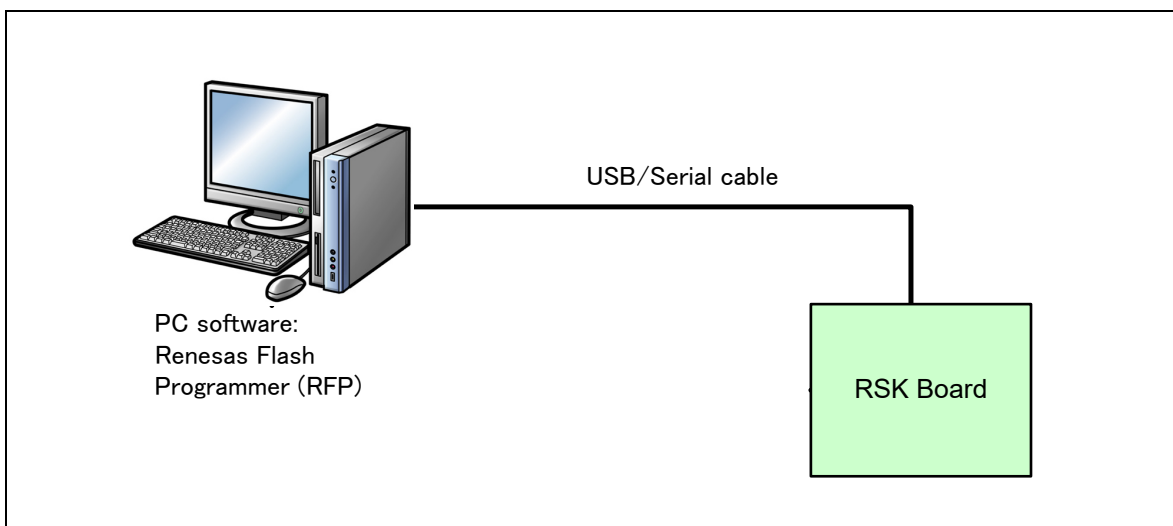

Figure 4-3 Connection Diagram with No Emulator
- When writing this program to the user boot area without use of an emulator (as in **Figure 4-3**), write to the ROM in boot mode. The user boot area cannot be programmed in USB boot mode.